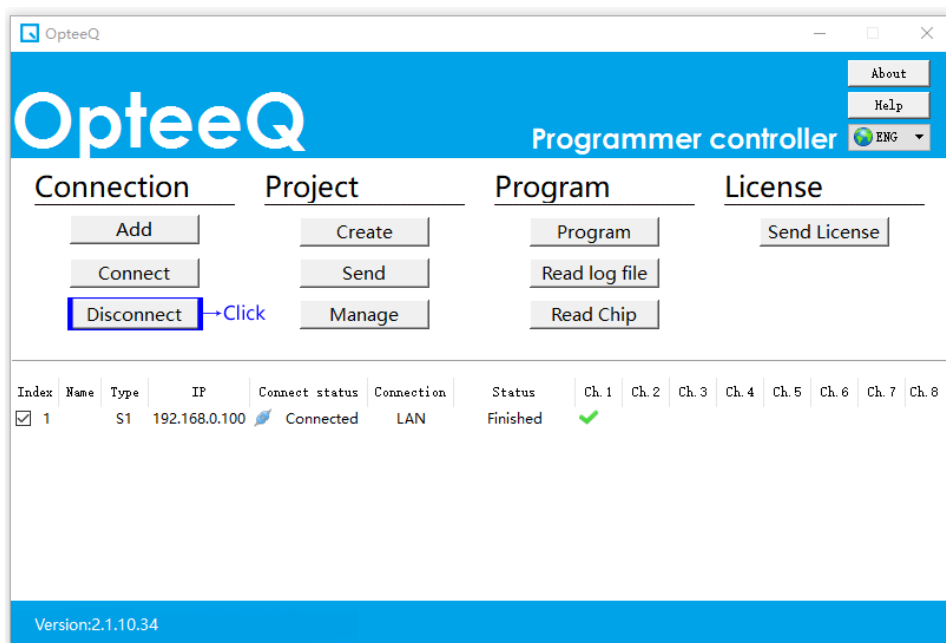

Figure 4.21: Programmer Disconnection
7) If the programmer is not used any more after successful programming, please click "Disconnect", as shown in Figure 4.21.